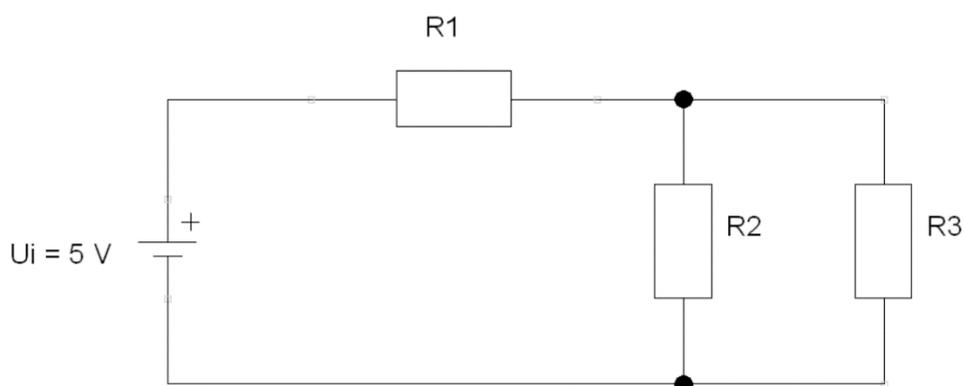

Figure 4.6: Resistors in series-parallel electrical circuit
4.4.1) The three resistors are connected in series-parallel combination to a direct voltage source. The series-parallel electrical circuit scheme/diagram is shown in the Figure 4.6.